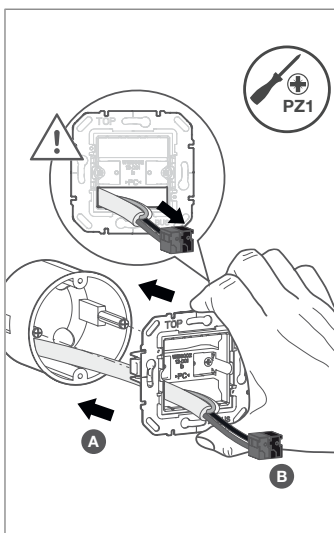
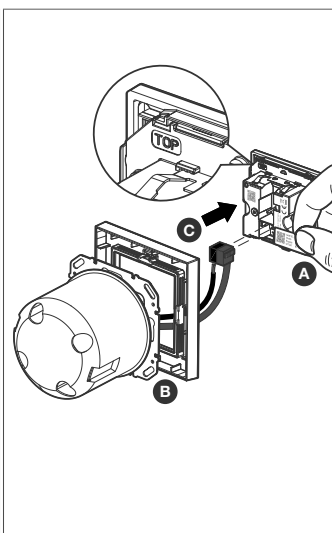

Fig. 7: Fitting the supporting ring
Fig. 8: Connecting the KNX bus connection terminal
- Mount the supporting ring in the correct position on a wall box (Fig. 7), note the ‘TOP’ marking.
- Run the bus cable with the connecting terminal through the frame and connect it to the back of the device. Route the KNX bus connection cable underneath the centre bar (Fig. 7/Fig. 8).